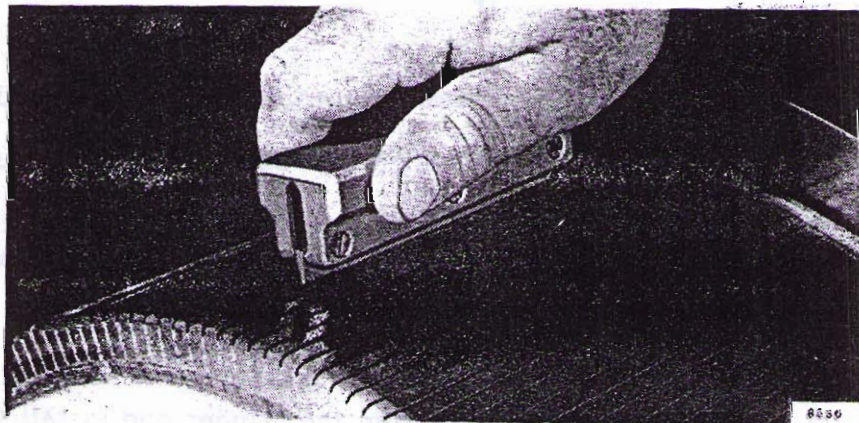

Fig. 15 - Cleaning Commutator Slots
8. When the depth of the mica undercut between copper bars is less than 1.2 mm ( $3/64''$ ), use commutator slot file, Fig. 15 to undercut the mica to proper depth. Do not exceed the undercut maximum depth of 2 mm ( $5/64''$ ).